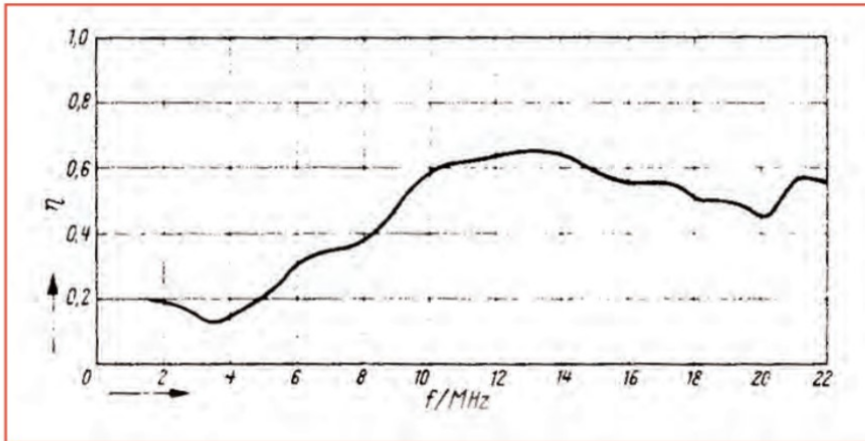

FIGURE 4: The efficiency of the Gnabs antenna.
antenna design was made by a Telefunken engineer, V.K. Gnabs, and published in 1966 [3]. In it, Gnabs described a parallel-wire dipole configuration clearly intended to simulate a thick solid antenna. Three wires were used with the outer two being spaced about 2m apart. They formed a centre-fed dipole with a total length from end to end of about 36m. Gnabs's measured results showed that the antenna produced a better than 2:1 VSWR between 3 and 24MHz. The key to this significantly-wider bandwidth than that achieved in the Altshuler configuration was the use of two parallel resistor-inductor (RL) loads, one in each arm of the dipole, with each being situated about 14m from the central feed point of the antenna (see **Photo 1**). Presumably, because Gnabs worked for a commercial company, he gave away no secrets about the values of either the resistor or the inductor he had used! But he did disclose some details of the measured results he obtained. In addition to producing better than 2:1 VSWR over a wide bandwidth, the radiation efficiency, though only about 15% at 3MHz, actually reached a little more than 60% at 14MHz before dropping slightly above that. A graph showing those results appears in **Figure 4**. Again there was the inevitable trade-off between bandwidth and
loaded antenna if one is able to measure the voltage across one of those loading resistors at various frequencies across the band. However, the antenna being at some height above ground can pose significant problems, of course, but it's not impossible to do and, apparently, this is what Gnabs had done because he showed a graph of radiation efficiency across the HF band for his particular antenna (see Figure 4).